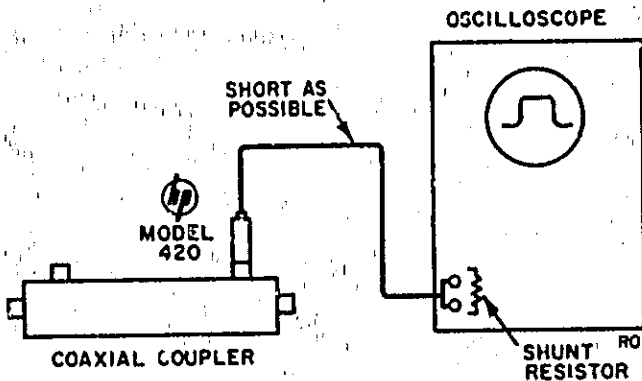

Figure 2. Use of Model 420 When Waveshapes Viewed Have Rise Times of Less than 15 μ sec.
6. As a demodulator, a few precautions may have to be exercised when observing a waveshape on an oscilloscope. The cable from the detector to the oscilloscope should be as short as possible and be shunted with a resistor, as shown in figure 2. Ideally this resistor should be 50 Ω to terminate the coaxial cable properly. However with this resistance the output video pulse will be too small for most oscilloscopes. Therefore use as small a value of resistance as possible to obtain suitable deflection on the oscilloscope. The larger the resistance the more the degradation of rise time. Typical values are between 50 Ω and 10 k Ω .